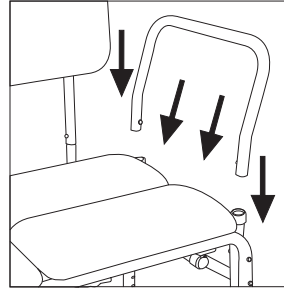

Figure 3
5. Turn transfer bench right-side-up. Attach armrest by pressing push pins and sliding into the arm receptacles on the side of the bench. Make sure the arm arcs outward, not inward. **(Figure 3)**.